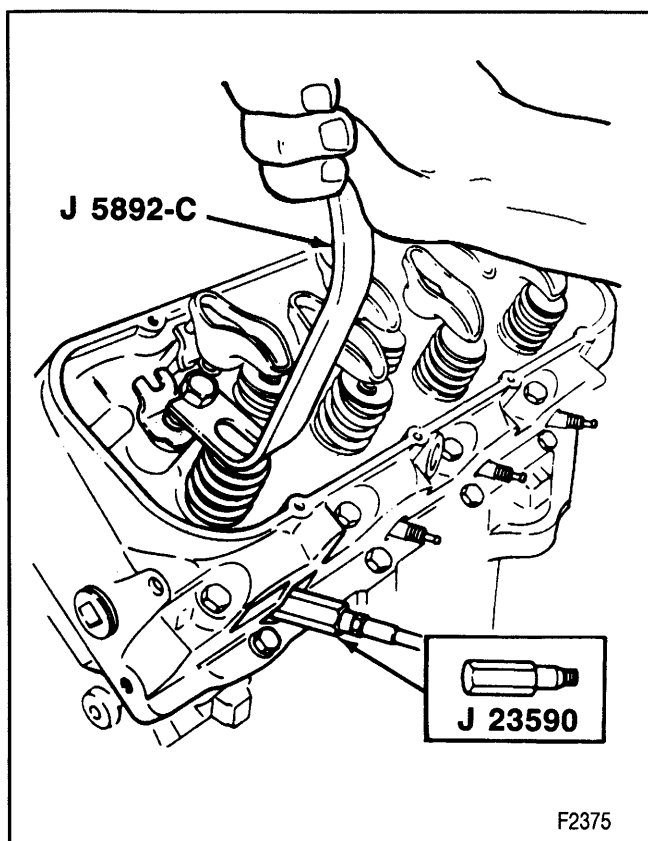

Figure 8—Compressing the Valve Spring
- C. Install a rocker arm bolt (figure 8).
- D. Use J 5892-C to compress the valve spring (figure 8).
5. Cap (25) and spring with damper (23).
6. Seal (24).
- A. With air pressure applied to the cylinder with J 23590, compress the spring with J 5892-C (figure 8).